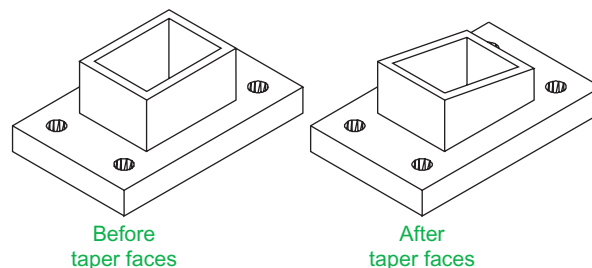

Fig. 18.10 Fifth example – **Taper Faces** tool
### Fifth example – **Taper Faces** tool (Fig. 18.10)
1. Construct the 3D model as in the left-hand drawing of Fig. 18.10. Place in **ViewCube/Isometric**.
And the selected face tapers as indicated in the right-hand drawing (Fig. 18.10).